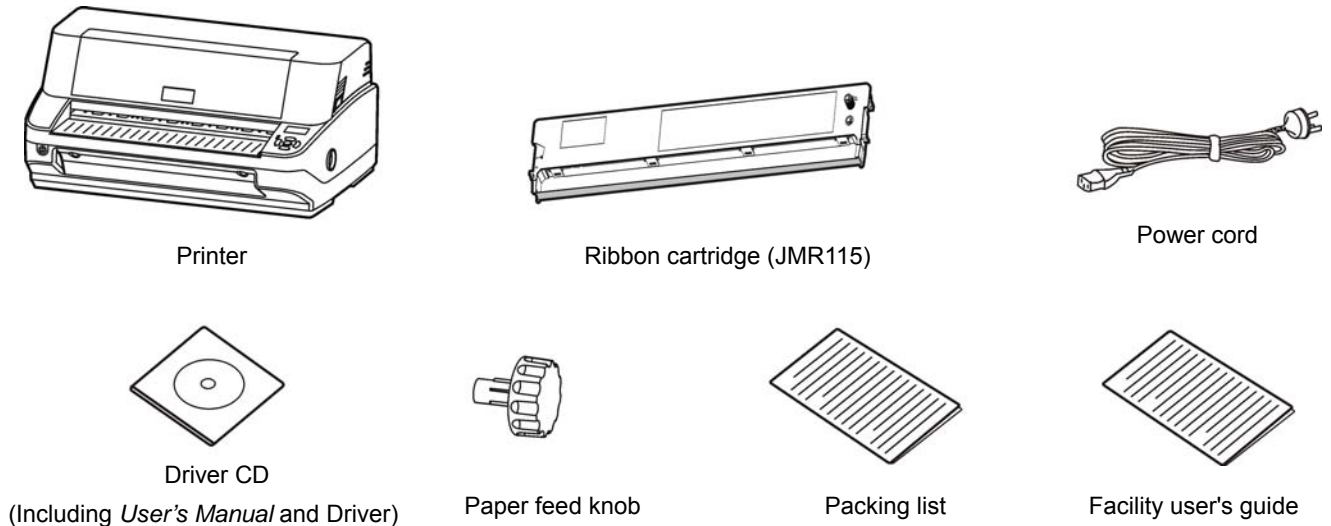

Figure 2-1 Items in the packing list
(1) Printer; (2) Ribbon cartridge (JMR115); (3) Power cord; (4) Driver CD; (5) Paper feed knob; (6) Packing list; (7) Facility user's guide (as Figure 2-1 show).